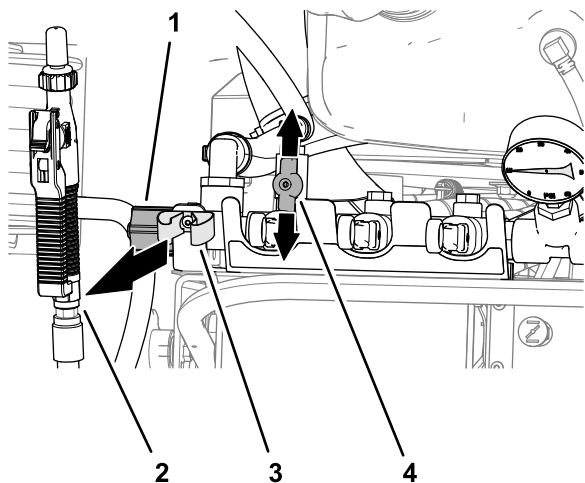

Figure 47
3. Remove the spray wand from the tool clip at the left side of the machine (Figure 47).
9. Close the spray wand-shutoff valve, shut off the spray pump, and insert the spray wand into the tool clip (Figure 47).
5. Open spray wand-shutoff valve (Figure 47).
6. Use the throttle valve (Figure 47) to adjust the spray-system pressure as follows: